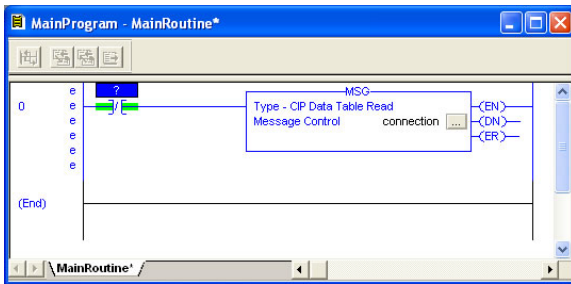

Figure 100: MainRoutine
- e) Click "OK" to close the MSG Configuration dialog. At this stage, MainRoutine should look like Figure 100.